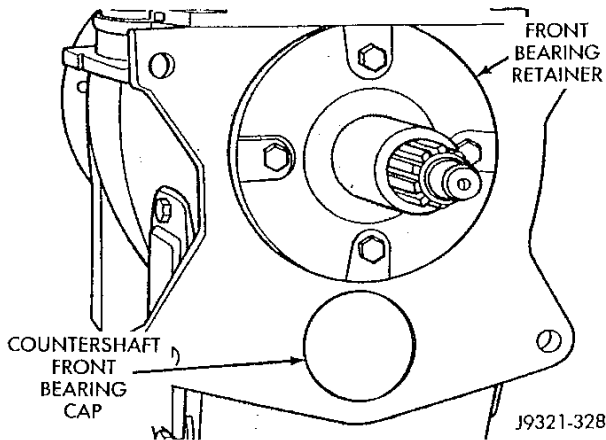
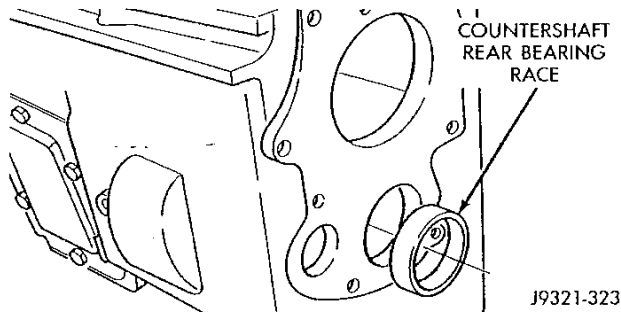

Fig. 63 Front Bearing Retainer Installation
Fig. 64 Countershaft Rear Bearing Race Position
(5) Install front bearing race in gear case.
(6) Apply recommended sealer to front bearing retainer flange surface. Then apply oil to lip of retainer oil seal.
(7) Install front bearing retainer on case (Fig. 63). **It is not necessary to align retainer in any special position. Oil channels and bolt holes in retainer are symmetrical and can be installed in any position.**
(8) Apply Mopar Lock N' Seal or Loctite 242 to front bearing retainer bolts. Then install and tighten bolts to 22-30 N·m (16-22 ft. lbs.) torque.
(9) Before proceeding, verify that countershaft front bearing cap has been installed (Fig. 64).
(10) Install output shaft rear bearing race. Tap race into position with plastic mallet.
(11) Install countershaft rear bearing race in case (Fig. 64). Then position race on bearing and tap race into position with plastic mallet.